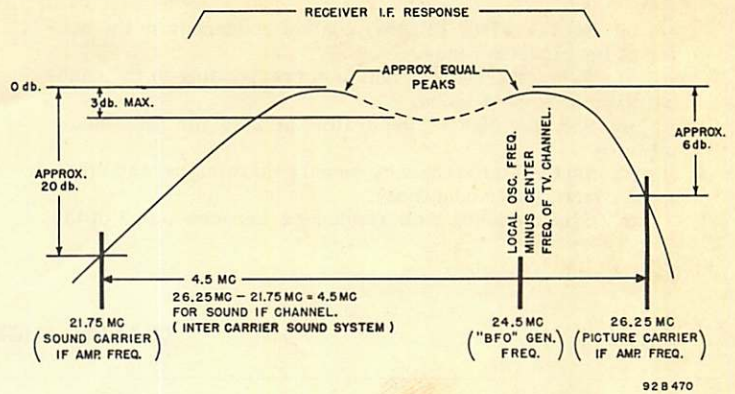

Fig. 12. IF amplifier response.
5. Check the i-f amplifier frequency response by tuning the signal generator from 21 mc through 26.25 mc and observing the change in d-c voltage at the electronic voltmeter. If the signal generator output is set for an electronic voltmeter reading of 1.5 volts at the peak i-f amplifier response, the d-c voltage should not drop below one volt between the two peaks normally obtained with this i-f amplifier. If the response is unsatisfactory, repeat steps 3 and 4 or try slight modifications of the recommended settings to obtain the desired response. Avoid resonating the coils with the iron core at the bottom end of the coil form. (Adjustment screw near limit of its travel.) Check the two carrier i-f responses, 21.75 mc and 26.25 mc. The 21.75 mc response will be approximately 20 db below the peak response (Approx. 0.15 volt) and the 26.25 mc response will fall approximately 6 db. below the peak (Approx. 0.4 volt). Refer to Fig. 12.